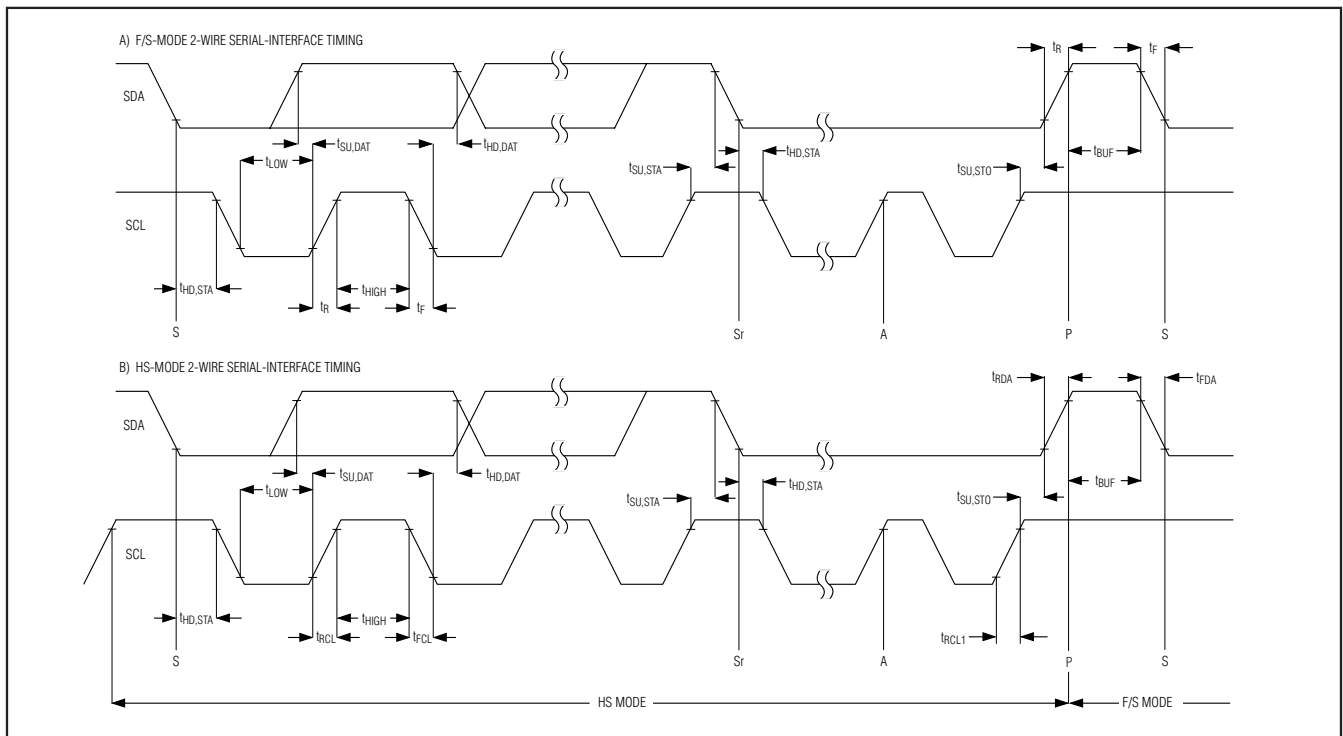

Figure 1. 2-Wire Serial-Interface Timing
### TIMING CHARACTERISTICS (Figure 1)
## TIMING CHARACTERISTICS (Figure 1) (continued)
**Note 10:** A master device must provide a data hold time for SDA (referred to VIL of SCL) to bridge the undefined region of SCL's falling edge (see Figure 1).
operate in high-speed mode (HS mode) to achieve conversion rates up to 94.4ksps. Figure 1 shows the bus timing for the MAX11644/MAX11645's 2-wire interface.